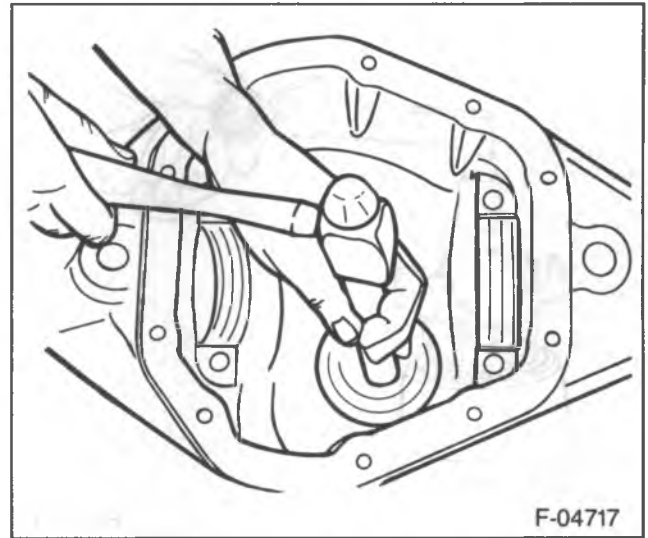

Figure 29—Installing the Pinion Inner Cup
2. Drive the inner bearing cup into the axle assembly using D-111 and C-4171. The cup must be seated on the shims (figure 29).